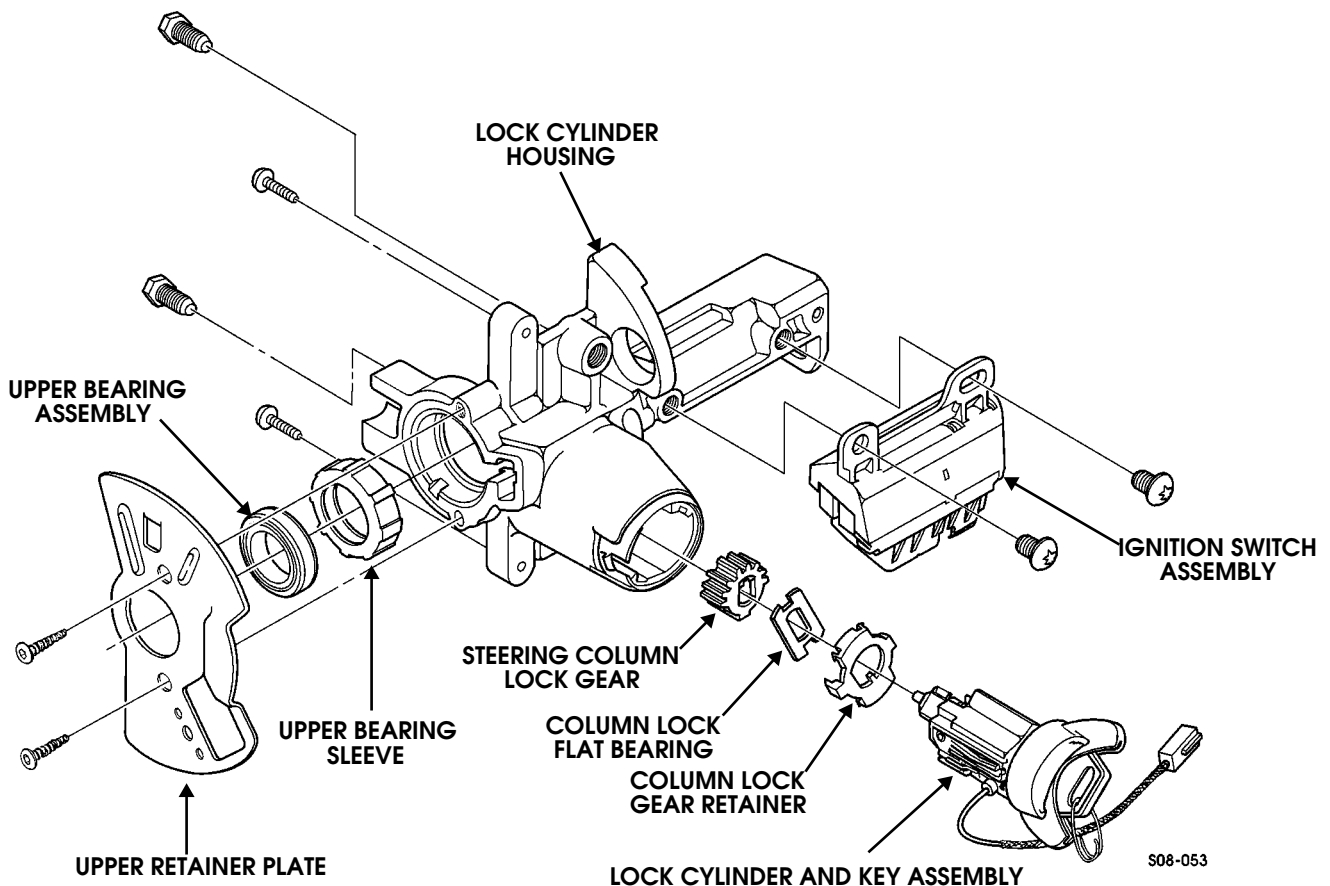

Figure 8-12: Lock and Switch Housing Components
1. Remove the lock cylinder and key assembly from the lock cylinder housing (Figure 8-12).
4. Remove two screws securing the ignition switch assembly to the lock cylinder housing. Remove the ignition switch assembly (Figure 8-12).
4. Secure the ignition switch assembly to the lock cylinder housing with two screws. Tighten screws to 35-40 lb-in. (3.9-4.5 N•m) (Figure 8-12).
6. Install the upper bearing assembly and upper bearing sleeve in the lock cylinder housing (Figure 8-12).